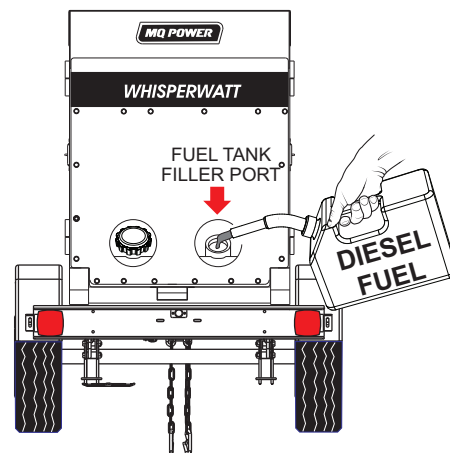

Figure 35. Fueling the Generator
2. Remove the fuel cap and fill the tank as shown in Figure 35.